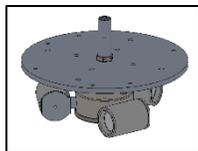

FIG. 8 - REFLECTOR SUBASSEMBLY
6. REFLECTOR SUBASSEMBLY (Pre-assembled as shown in FIG. 8)